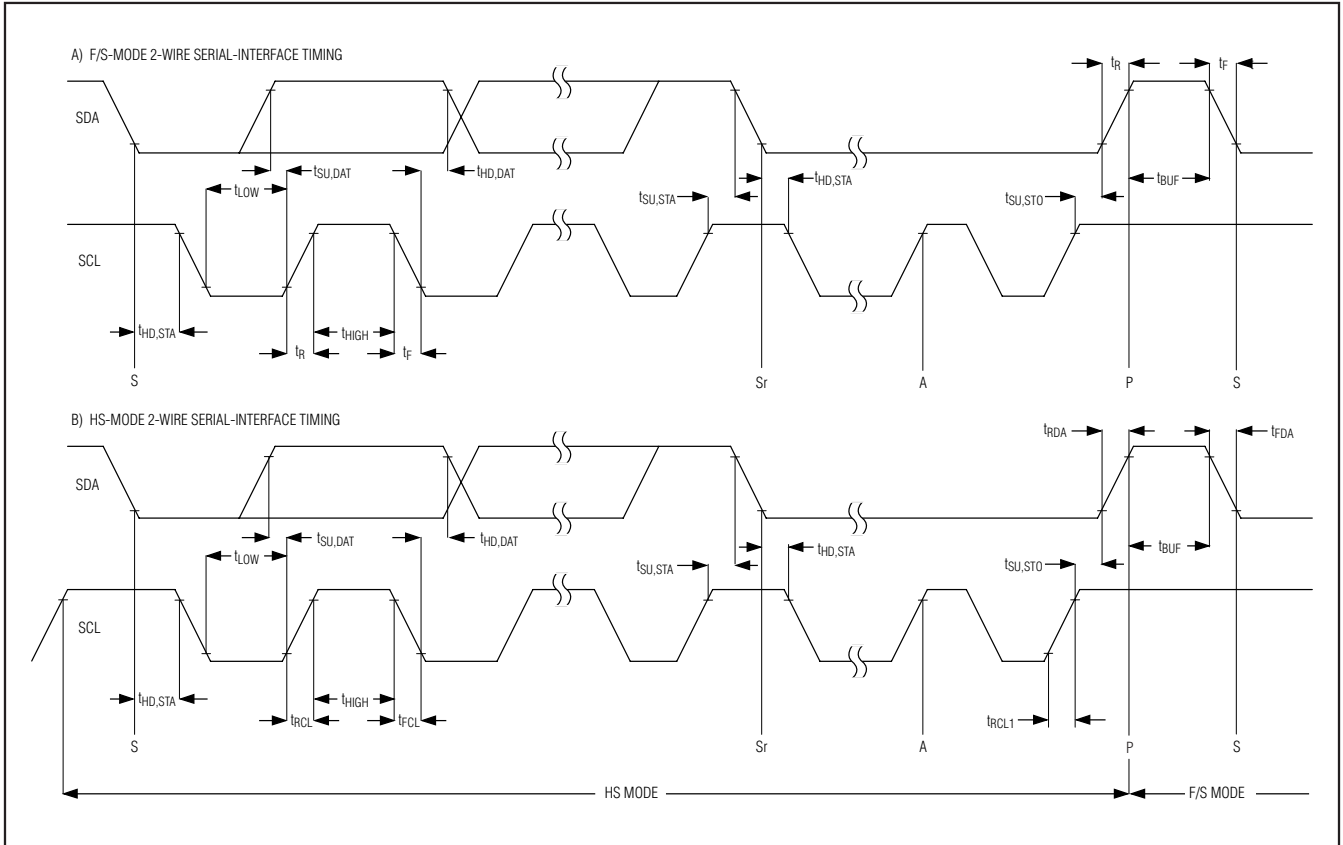

Figure 1. 2-Wire Serial-Interface Timing
TIMING CHARACTERISTICS (Figure 1)
TIMING CHARACTERISTICS (Figure 1) (continued)
- Note 11:** A master device must provide a data hold time for SDA (referred to V_{IL} of SCL) to bridge the undefined region of SCL's falling edge (see Figure 1).
operate in high-speed mode (HS mode) to achieve conversion rates up to 94.4ksps. Figure 1 shows the bus timing for the MAX11644/MAX11645's 2-wire interface.